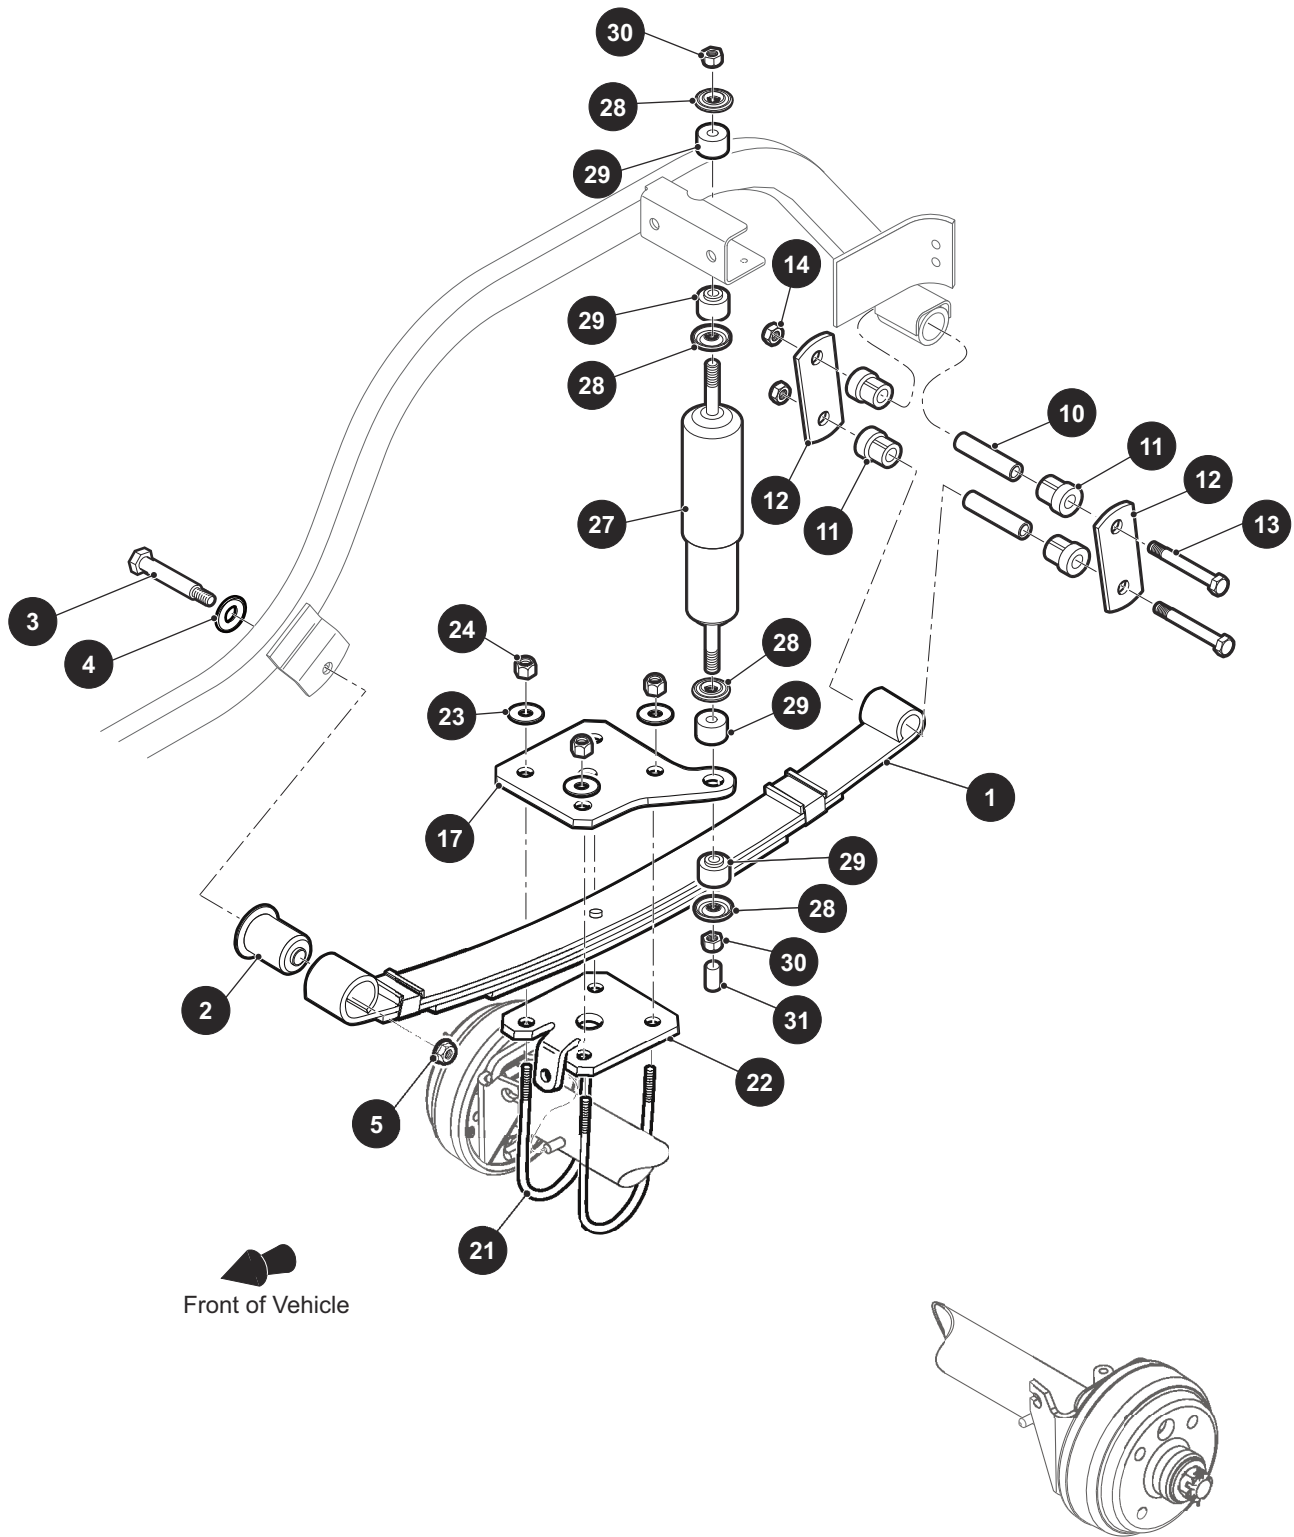

Fig. 1 Rear Suspension
The rear suspension consists of the rear axle and attachments that secure it to the springs and shock absorbers (Ref. Fig. 1). In addition the rear axle is secured to the rear of the engine by means of a casting that is bolted to the engine and mounted to the rear axle with 'U' bolts. This section is confined to the removal and replacement of the springs and shock absorbers. Rear axle shaft removal is covered in REAR AXLE section.
2. Remove the bottom shock absorber nut (30) (Ref. Fig. 1).
3. Compress the shock absorber (27) and remove the top shock absorber nut (30).
5. Shock absorber installation is in the reverse order of disassembly except that the shock absorber nuts (30) must be tightened until the shock absorber bushings (29) expand to the diameter of the shock absorber washer (28).
1. Remove the bottom shock absorber nut (30) (Ref. Fig. 1).
3. With both the rear axle and the frame supported, remove nuts (24) and washers (23) that secure the U-bolts (21) to plates (17 and 22). Remove the plates and U-bolts.
4. Remove the bolts (13) and nuts (14) that secure the rear spring shackles (12) and bushings (11) to the frame.
5. Remove the bolt (3), washer (4), bushing (2) and nut (5) that secure the front of the spring to the vehicle.
6. Remove the spring assembly (1).
8. The shock absorber nuts (30) must be tightened until the shock absorber bushings (29) expand to the diameter of the shock absorber washer (28) (Ref. Fig. 1).
9. Tighten the front spring hardware (10) to 21 - 25 ft. lbs. (28 - 34 Nm) torque.